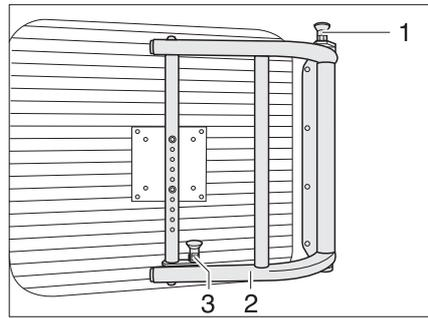

Fig. 63 Swivel arm for flat screen
- Pull up the release knobs (Fig. 63,1 and 3) to unlock the swivel arm.
- Swivel the flat screen with the holder (Fig. 63,2) into the desired position.